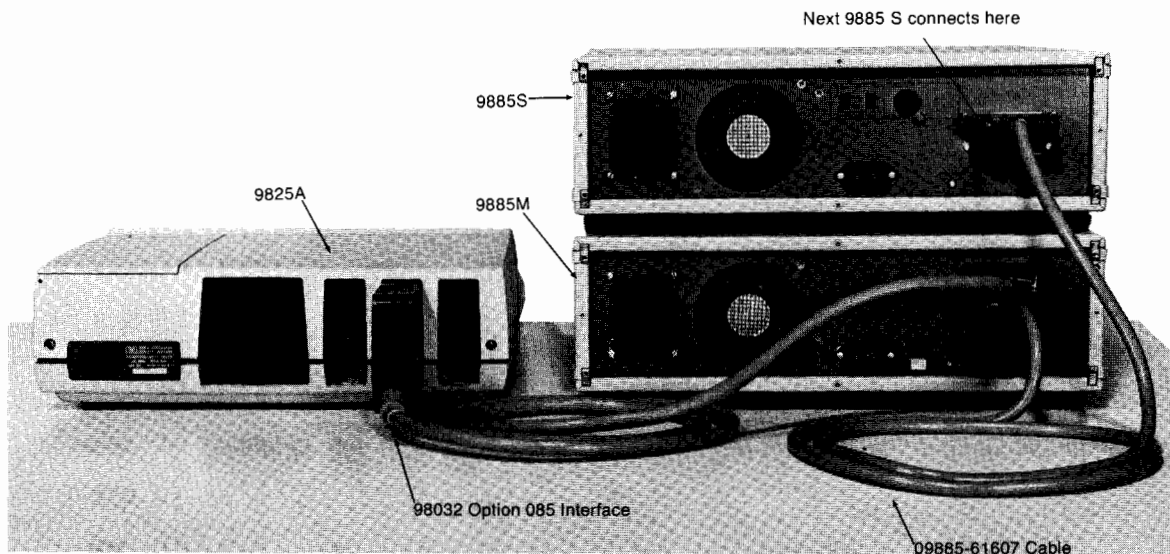

Figure 1-3. Connecting the 9885S Drives
6. For multiple drive systems, connect the 9885M as per step 5. Then connect the 9885S drives in series to the master drive using the 09885-61607 cable between drives (see Figure 1-3).